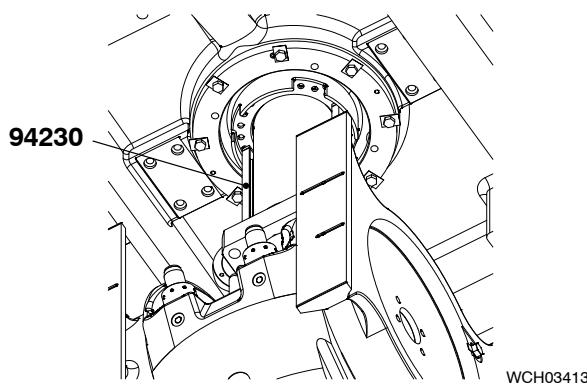

Fig. 6
- 14) Attach the two distance pieces (94230, Fig. 6) to the piston rod foot.
- The distance pieces (94230, Fig. 6) are in line with the gland box.